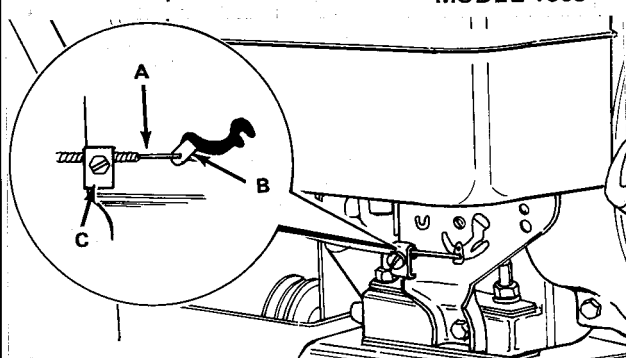

Figure 23. Throttle Cable Assembly
6. Run throttle cable between handles and along the right frame to side of engine (for 1005) or to front of engine (for 1003). Hook throttle cable (item A, figure 23) to throttle pivot (item B).